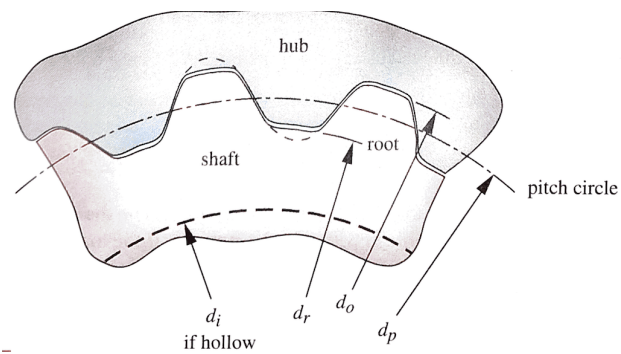

Figure 19: Involute spline geometry.
**Splines** are formed by contouring the outside of the shaft and the inside of the hub, as seen in Figure 19.